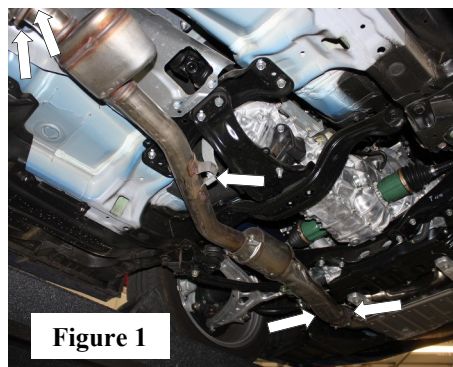

Figure 1
2. Unbolt flanges and bracket bolt, located just ahead the catalytic converter, and other in front the catalytic converter. Keep hardware for reinstallation. (See Fig. 1)